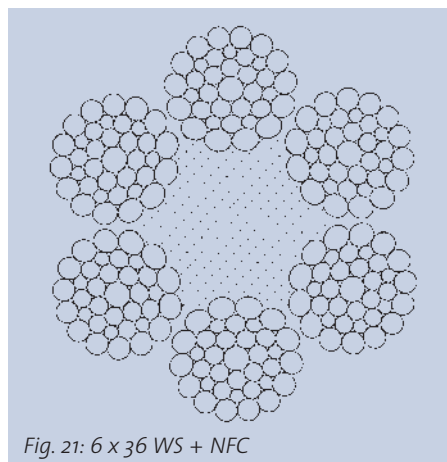

Fig. 21: 6 x 36 WS + NFC
- Use of thicker ropes with small $D/d = 30$ and consequently the ability to select flexible multiple-wire rope constructions, Fig. 21.